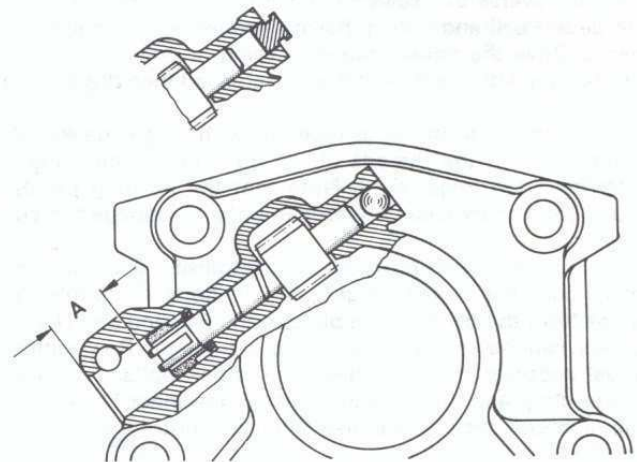

Fig. 6.19 Cross-section of the speedometer drivegear (Sec 7)
- 4 Check the speedometer drivegear in the rear cover for wear and renew it if necessary. To remove it use a soft metal drift to drive the shaft through the gear and out of the cover. Note that the sealing ball or plug will be pushed out, but the plug can be levered out first with a screwdriver. Extract the seal by screwing a bolt into it and pulling on the bolt. Refitting is a reversal of removal, with reference to Fig. 6.19, however, before fitting the sealing plug, coat it with sealing compound.